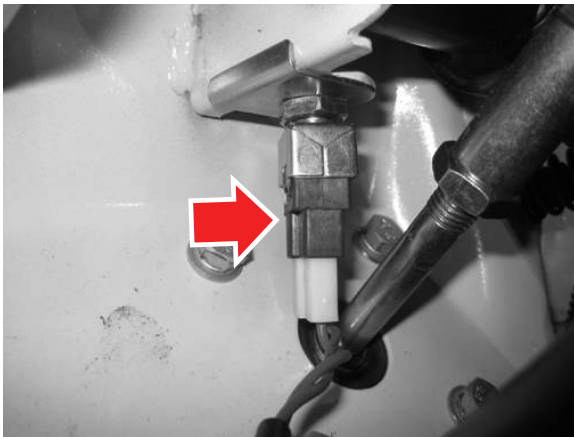

Figure 7-1
1. Working from inside the cab, locate the brake lamp switch, remove and set aside for reinstallation (see *Figure 7-1*).